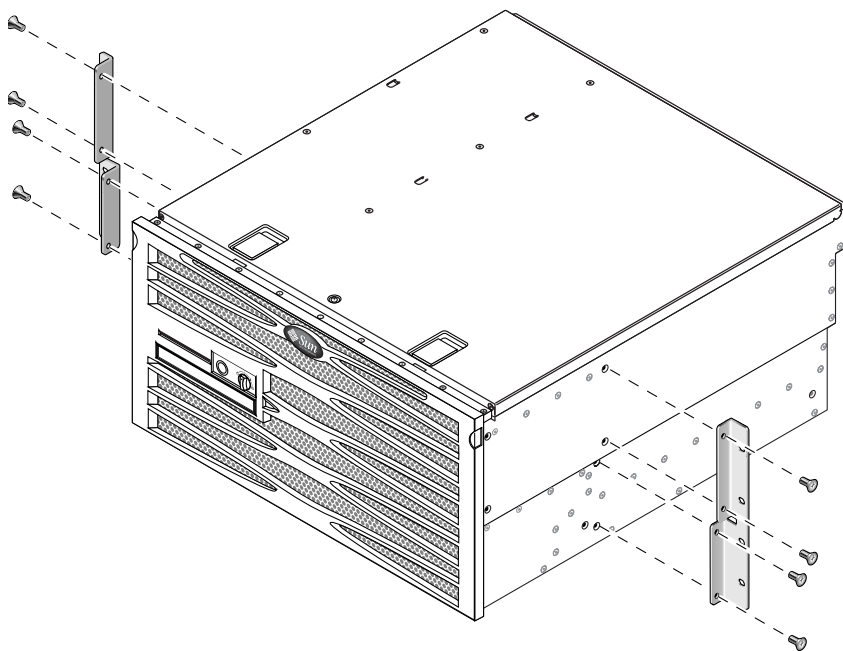

FIGURE 3-27 Securing the Side Brackets to the Side of the Server
2. Using eight of the M5 × 8 mm panhead Phillips screws (four for each side bracket), secure the side brackets to the sides of the server (FIGURE 3-27).